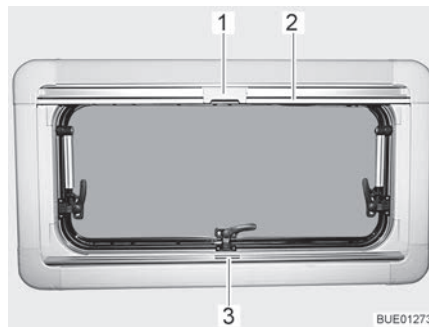
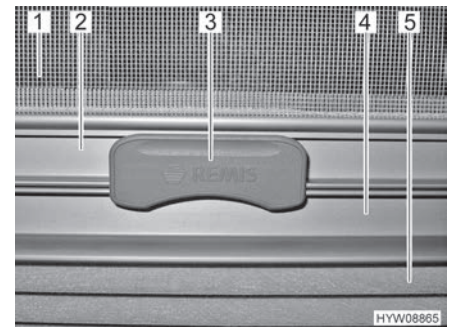

Fig. 33 Hinged window
Fig. 34 Catch
Roman shade The Roman shade (Fig. 34,5) is located in the lower blind box.
- Seize the Roman shade by the centre of the holding bar (Fig. 33,3 and Fig. 34,4), pull it from the bottom to the top and release it at the desired height. The Roman shade will stay at this height.
Insect screen The insect screen (Fig. 34,1) is located in the upper blind box.
- Pull the insect screen down by the holding bar (Fig. 33,2 and Fig. 34,2), until it touches the holding bar of the Roman shade (Fig. 34,4).
- Clip the catch (Fig. 33,1 and Fig. 34,3) on the insect screen into the holding bar of the Roman shade. When the catch is locked, the Roman shade and the insect screen can be adjusted together.
- Push the catch (Fig. 34,3) on the insect screen upward.
- Move the insect screen back slowly on the holding bar (Fig. 33,2).